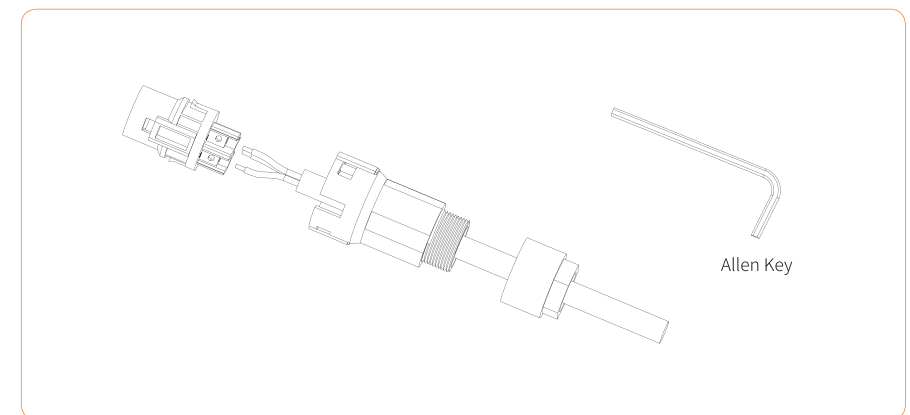

Figure 4-17
③ Insert the stripped end of each three wire into the appropriate hole of the terminal head (yellow green wire to PE port, red or brown wire to L port, and blue or black wire to the N port). Please try to pull out the cable to make sure it is well connected. As shown in Figure 4-17: